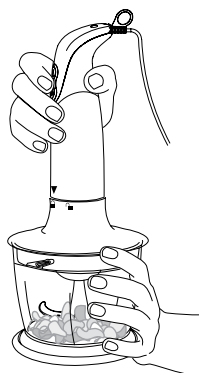

FIG. 5
5. Hold the motor body with one hand and the chopper bowl with the other and then select the required speed and press the (I) switch for LOW speed or (II) switch for HIGH speed, refer to Fig. 5.